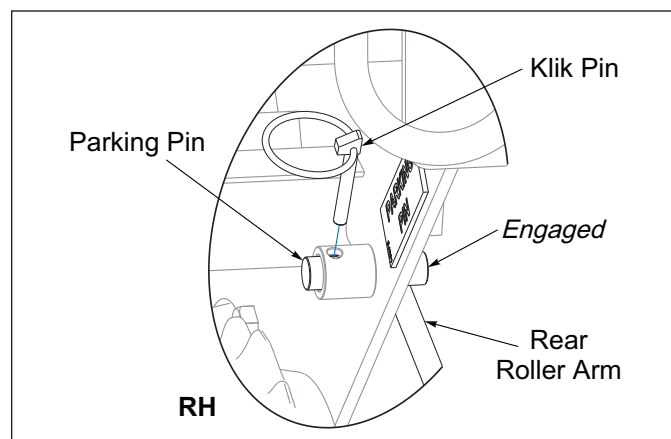

Figure 3-6: Parking Pin Engaged
2. Engage both Parking Pins at the back LH and RH sides of the Seeder. This will limit the movement of the Rear Roller. **See Figure 3-6.**